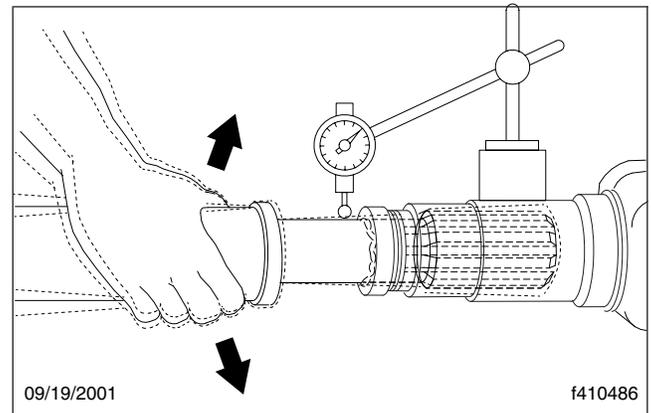

Fig. 2, Checking for Radial Looseness of the Slip Yoke Spline
3. Examine the slip yoke spline for excessive radial movement. See Fig. 2. If excessive radial loose-